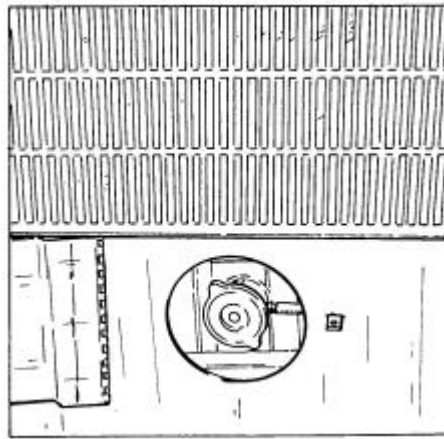

Fig. 5.9. Radiator Cap
5.8.3. RADIATOR CAP (Fig. 5.9)
2. Add coolant if it must be added; remove the radiator cap as outlined above (Fig. 5.9).
1. Remove the radiator cap (Fig. 5.9 and 5.9A) as outlined above.